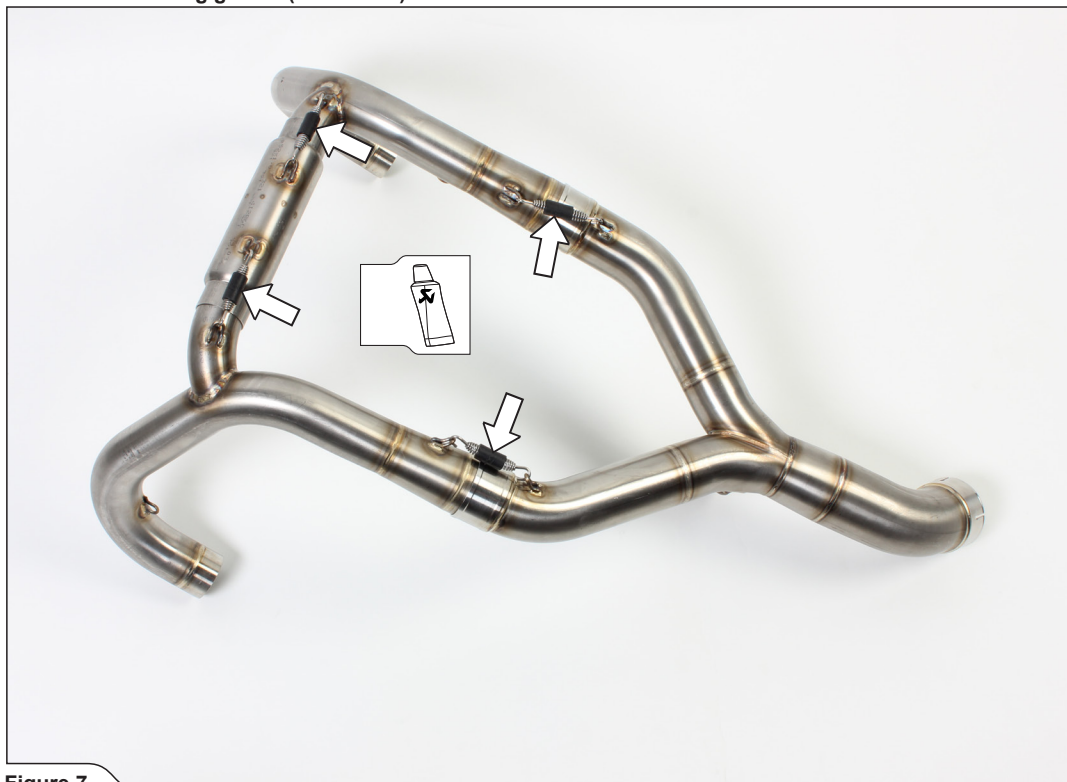

Figure 7
1. Assemble the Akrapovič headers with collector and link tube; attach the springs (**Figure 7**).